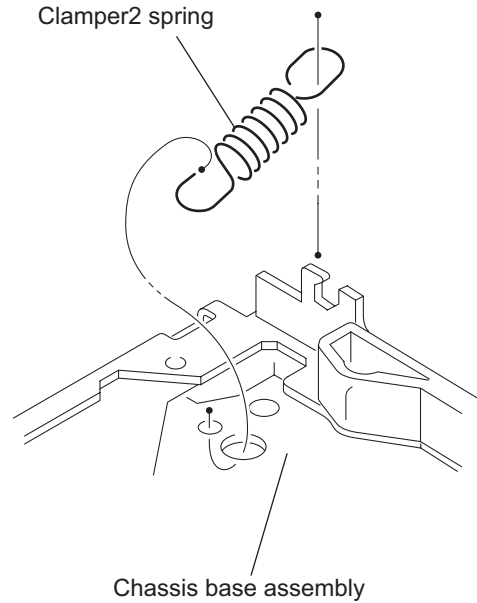

Fig.6
- (3) Move the clamper unit in the direction of the arrow and turn. Release the two joints **e** and **f**, then remove the clamper unit upward. (See Fig.6.)